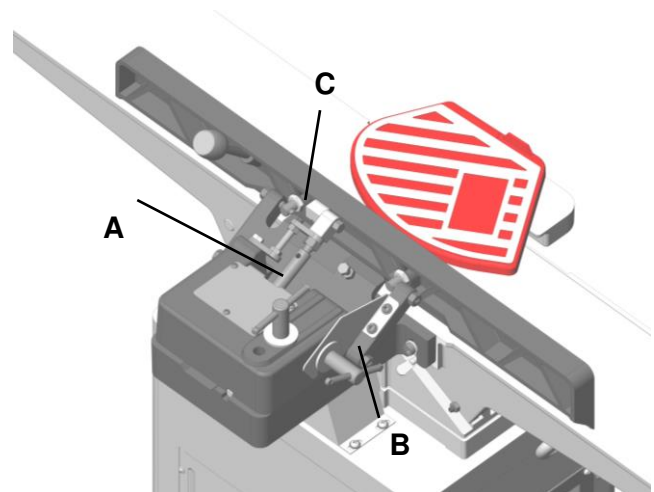

FIGURE 24
Fence adjustments are made with the lock handles shown in Figure 24. To slide the fence forward or back on the table, loosen lock handle (A), slide the fence to the desired position and tighten handle (A) to secure fence.
1. Loosen locking bolt (B), Figure 24.
2. Place a machinist protractor or triangle on the table and against the fence. Adjust the fence to the desired angle and tighten locking bolt (B) to secure the fence.
2. Flip back the stop block (C).
3. Adjust the fence to the desired angle and tighten locking bolt (B) to secure fence.
**NOTE:** The handle (A, Figure 24) can be adjusted to a more convenient position by loosening the nuts on its opposite end, turning the handle to the proper position, and retightening the nuts.